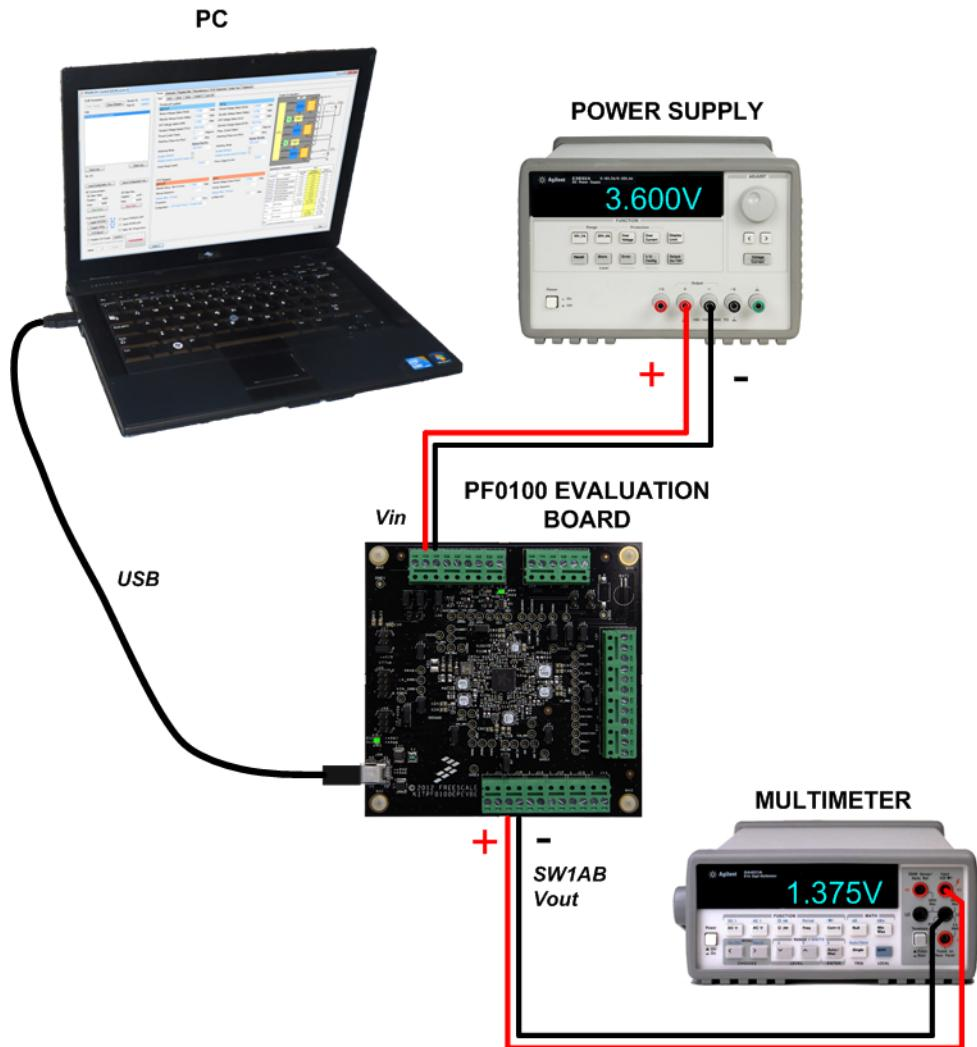

Figure 10. Evaluation Board Setup
6. Supply 3.6V to J25 of KITPGMEVME and then connect the USB cable from the USB-MiniB port (J34) to the computer. See Figure 10 for the connection diagram.
Connect the power supply and the USB communication cables as shown in Figure 10. Voltmeters are optional but it are recommended in order to accurately verify that each one of the output supplies is providing the correct voltage level.